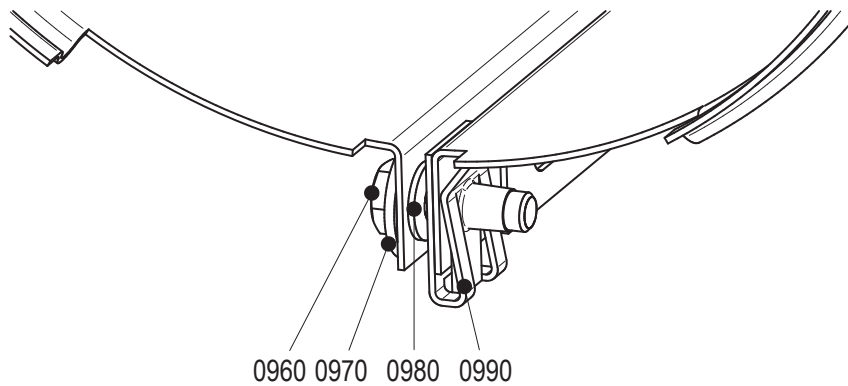

Figure 12: Fitting jacket.
- 1 Loosen bolts (0960). See figure 12.
- 3 Close the jacket and fit bolt (0960). See figure 12.
- 5 Close the jacket and fit a bolt (0230) and fit bolt (0960). See figure 12.